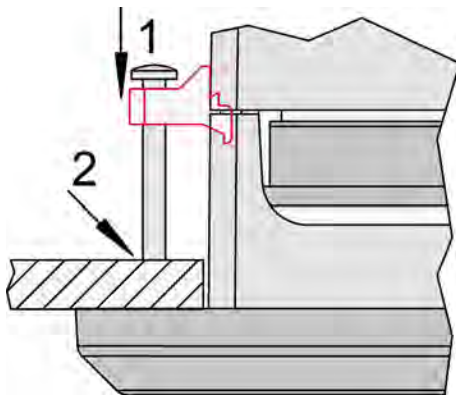

Fig. 12: Tighten clamping screws
6. ➔ Tighten the clamping screws (Fig. 12/1) until the control unit is secured to the control panel (Fig. 12/2). Over tightening of these screws may result in the clamp inserts or the housing breaking. Do not exceed the recommended tightening torque of 0.1 Nm.